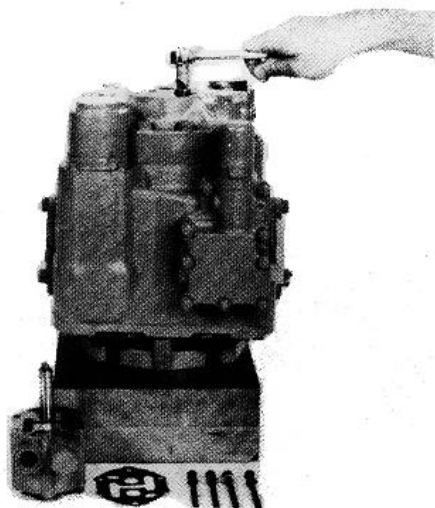

FIGURE 7-50.
- b. Using a drag link, unscrew check valve from end cap (see figures 7-50 and 7-51).